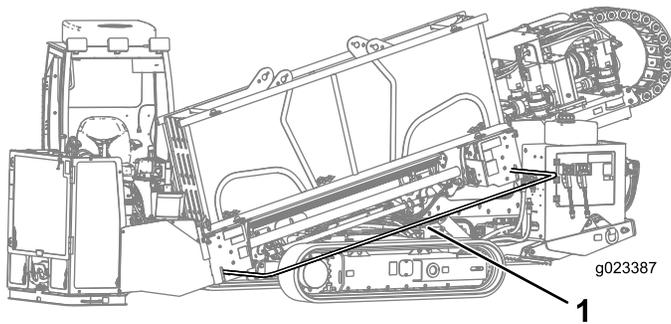

Figure 38
4. Lower the pedestrian safety bar and secure it in place (Figure 38).